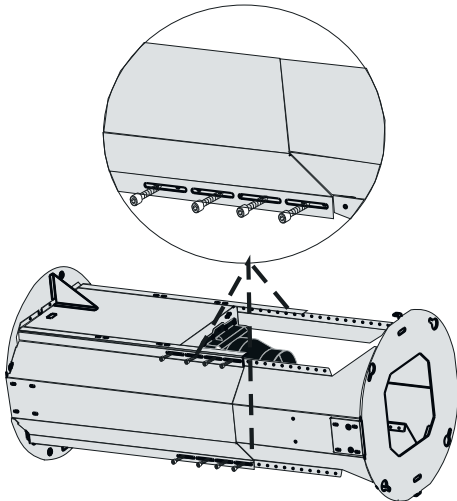

Fig. 13
2. ➔ To adjust the distance; remove the screws shown in (Fig. 13) and pull the motor block composed of two blocks in or out to adjust it to the correct measurement. Reinstall the screws you took out into suitable holes.